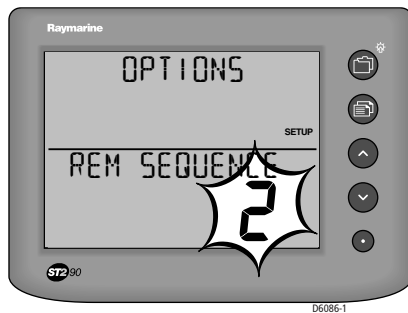

Figure 3-12: Set remote sequence
3. Press the  button to move to the REM SEQUENCE page (see *Figure 3-12*).